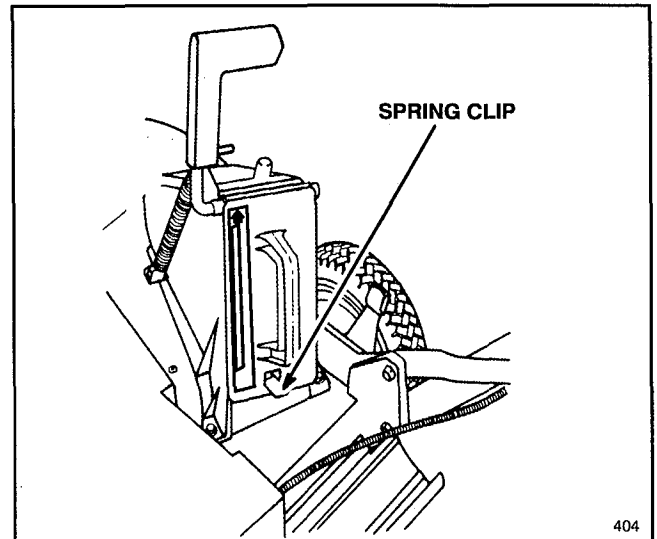

Figure 15
3. Push the plug all the way in until the spring clip on the bottom of the plug clicks into place, locking the plug securely into the discharge tunnel (Fig. 15). Release the discharge door handle to lock the top of the plug.